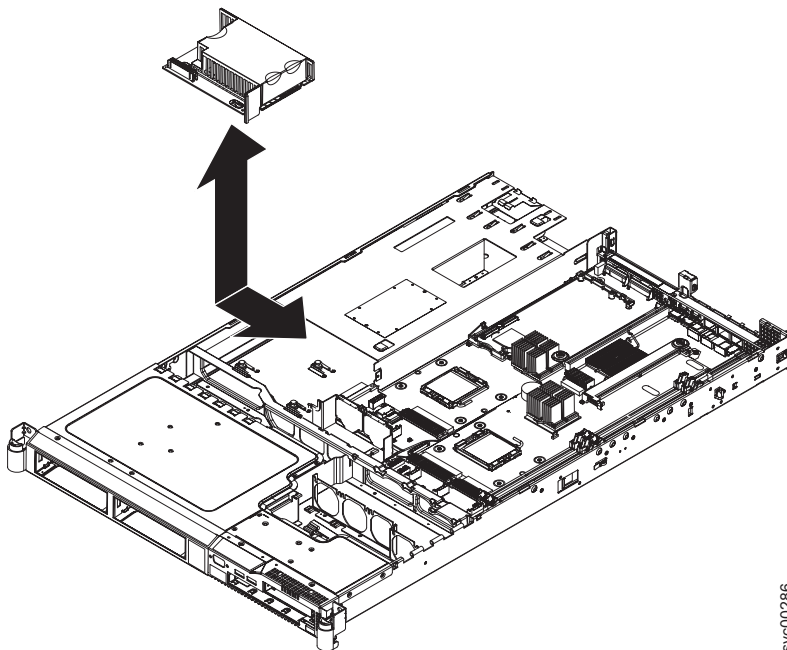

Figure 168. SAN Volume Controller 2145-8G4 power backplane
4. Install the power supply into the power-supply bay as shown in Figure 168.